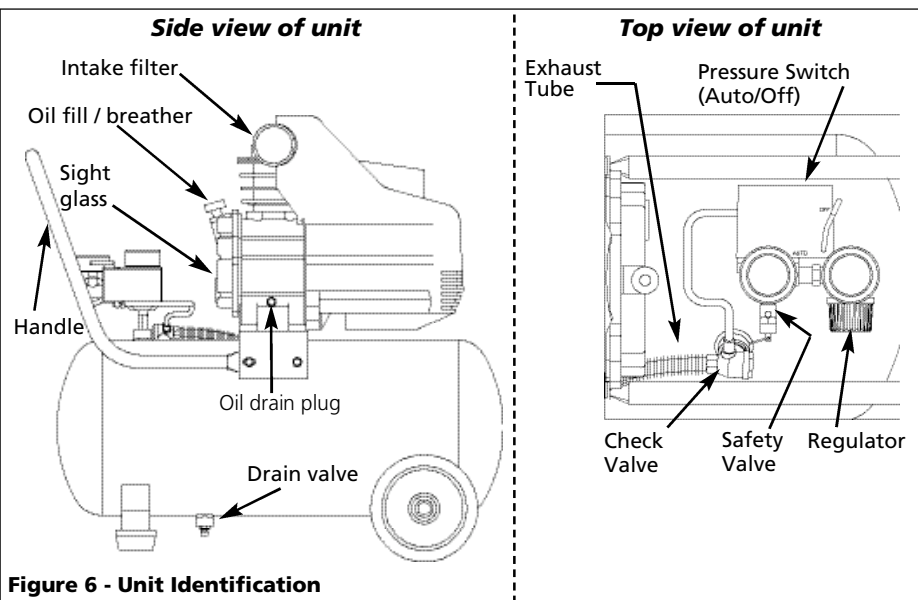

Figure 6 - Unit Identification
2. Wearing safety glasses, pull the ring on the safety valve (see Figures 6 and 8) to release pressure from compressor tank. Use your other hand to deflect fast-moving air from being directed toward your face.
1. Turn compressor off and release pressure from system. To release pressure from system, pull ring on ASME safety valve (see Figures 6 and 8). Deflect escaping air by shielding valve with one hand as you pull ring with other hand. Pull ring until tank is empty.
2. Drain moisture from tank by opening drain valve (see Figure 6) underneath tank. Tilt tank to remove all moisture.
3. Remove oil drain plug (see Figure 6). Allow oil to collect in pan. Tilt unit to completely drain.